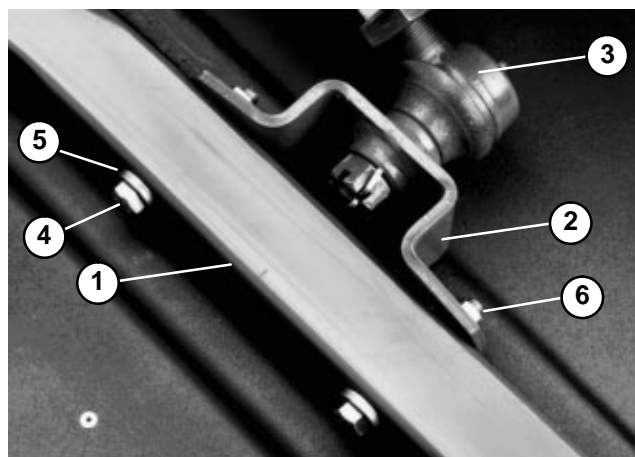

Figure 14
4. Secure ball joint mounts to each castor arm with (2) 7/16 – 14 x 3" lg. capscrews, 15/32" I.D. x 59/64" O.D. flatwashers and 7/16 – 14 flange nuts. Flatwashers to be positioned to outside of castor arm (Fig. 14).